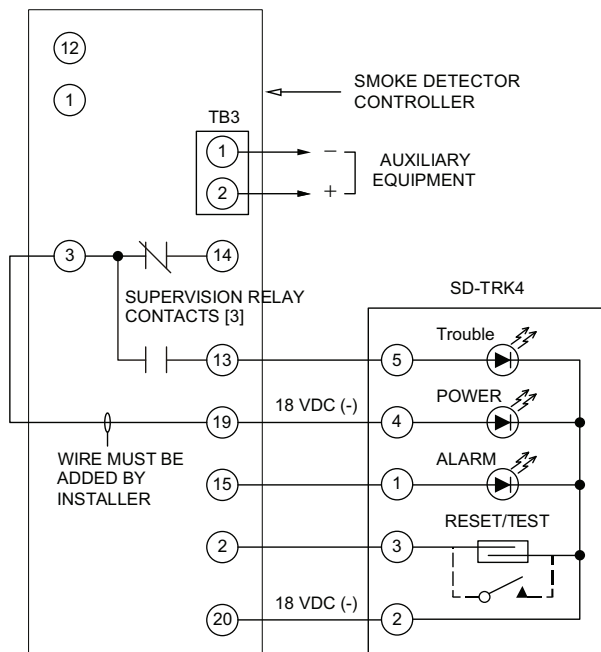

Fig. 48 — Remote Test/Reset Station Connections
The test/reset station dirty sensor test checks the test/reset station's ability to initiate a sensor dirty test and indicate the results. It must be wired to the controller as shown in Fig. 48 and configured to operate the controller's supervision relay. For more information, see "Dirty Sensor Test" on page 25.
1. Verify that the remote test/station is wired as shown in Fig. 48. Repair or replace loose or missing wiring.